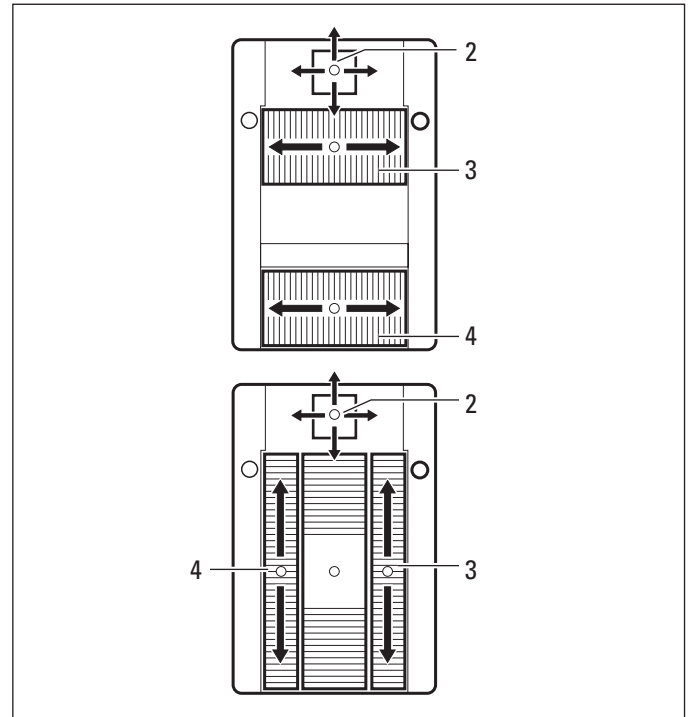

Fig. 2
- ⇒ Press the zoom (4), focus (3) and XY-unit (2) functions at the hand-/footswitches (see the Leica M620 surgical microscope user manual) (Fig. 2).